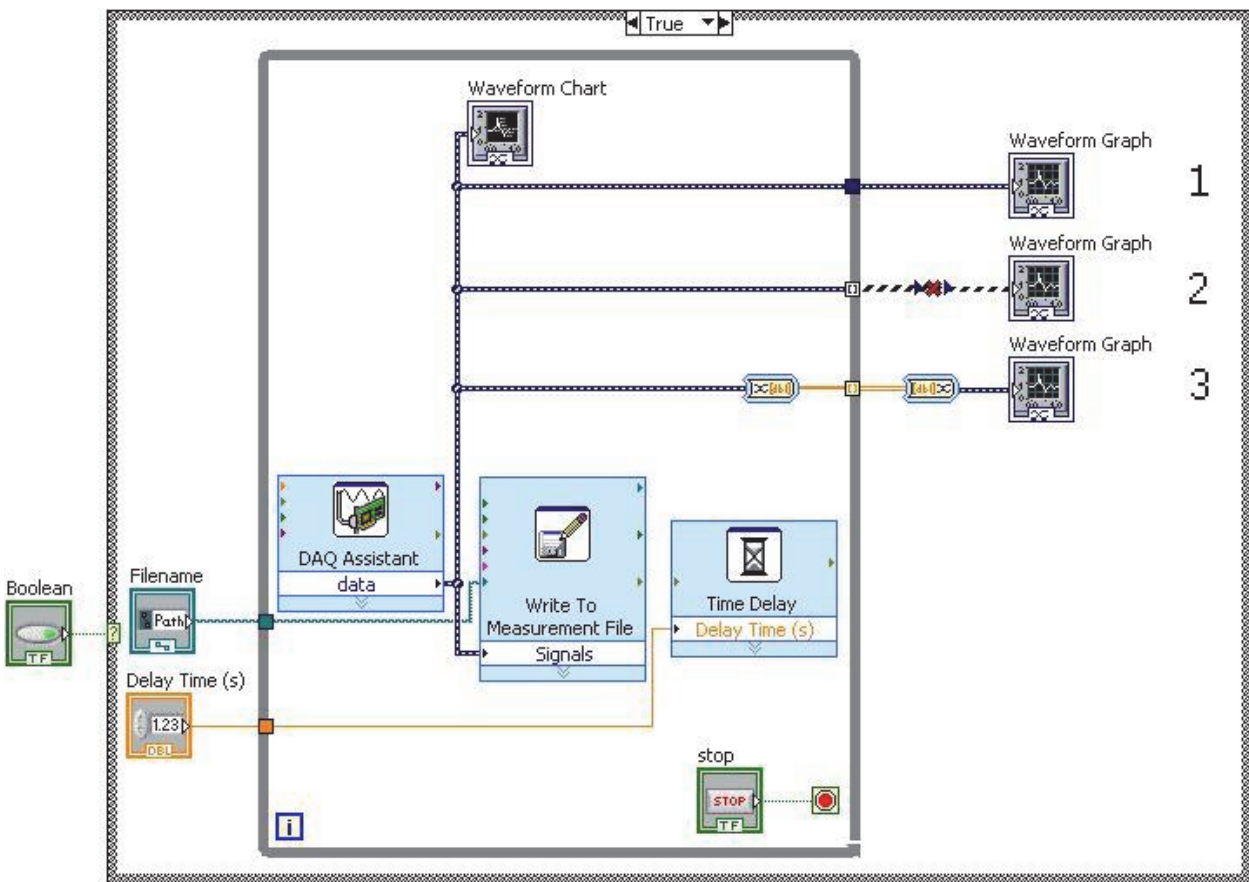

Figure 1.4.17 Intermediate stage of the example VI to continuously measure analog input data: three attempts to display data in a graph
35. Using the “Connect Wire” (solder spool) cursor, wire the Express VIs as shown in Fig. 1.4.17 (third option). A broken wire will appear until indexing is enabled. Right click on the tunnel and select **Tunnel Mode>>Indexing**.
You might wonder why the output of the DAQ Assistant is not directly wired to the waveform graph as was done with the waveform chart. There are two problems with this approach as shown in Fig. 1.4.17. The problem with the first approach to display data in a graph (option 1 in Fig. 1.4.17) is that the tunnel at the border of the While Loop has indexing disabled, as shown by the solid tunnel. The graph will display only the last measurement of each channel. For most data types, this problem can be corrected by enabling indexing so that the values at every iteration are stored in an array. However, the problem with this approach (option 2 in Fig. 1.4.17) is that the waveform graph cannot accept an array of dynamic data as shown by the broken wire. A solution is shown in the third approach using the Express VIs to convert dynamic data.
In the third approach (option 3 in Fig. 1.4.17), indexing occurs with the numeric data type. Two analog input measurements are made every iteration of the While Loop. The “Convert from Dynamic Data” Express VI converts the two values of dynamic data into a